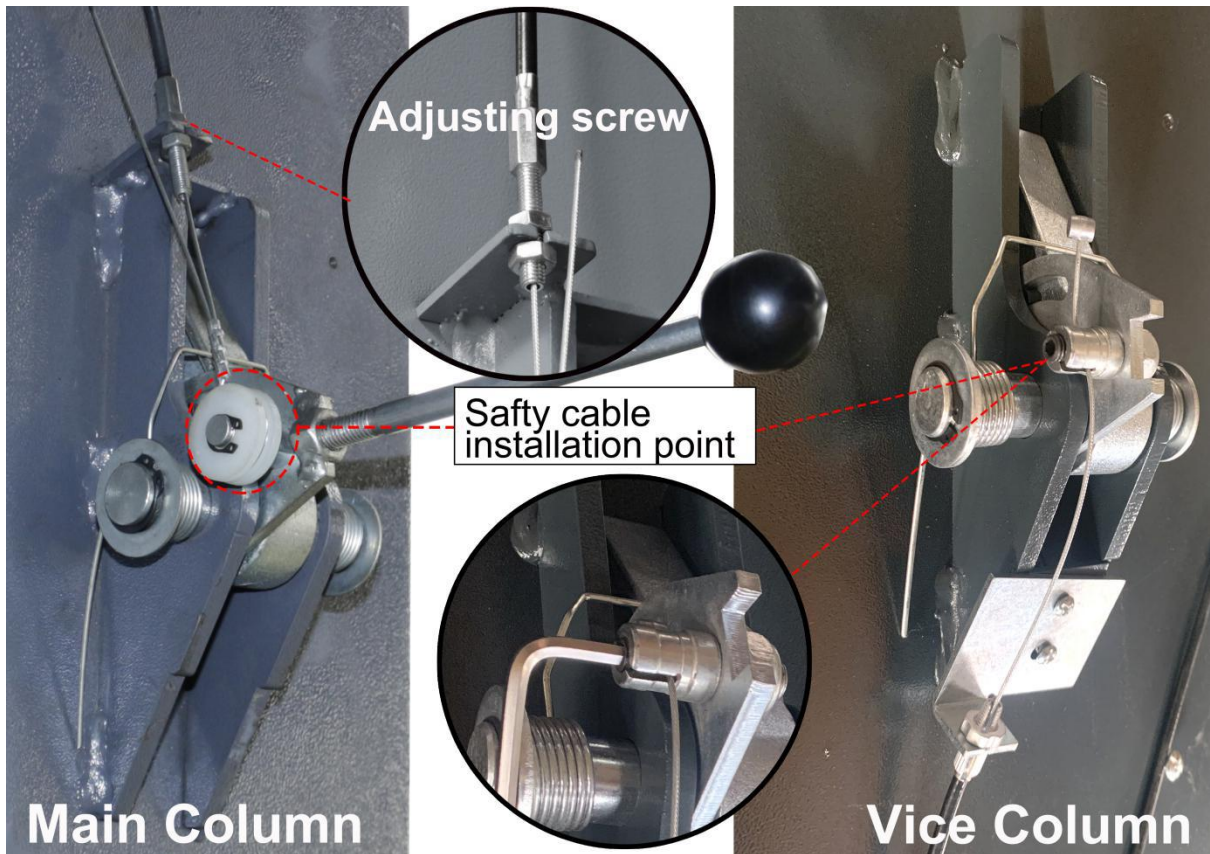

Fig 15 Safety lock release cable installation diagram
2. Install safety lock release cable to connect the safety lock on the main column and vice column. (Fig 15)